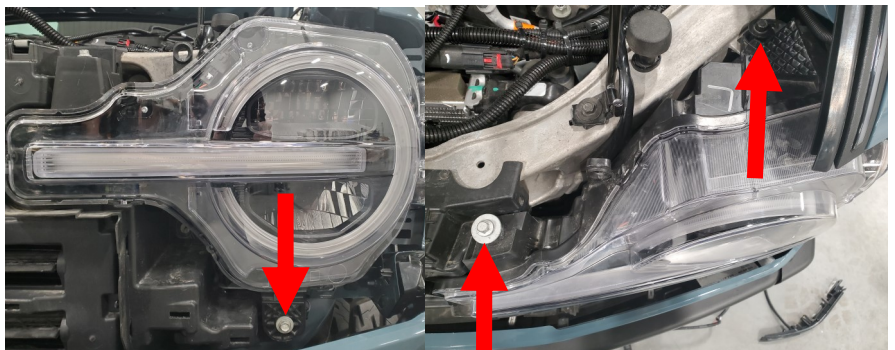

Figure 7.
**7.** Once the grill is removed, you can remove the left and right headlights by removing three screws using a 10mm socket for the top two and an 8mm socket for the front screw. See figure 7 for more detail.